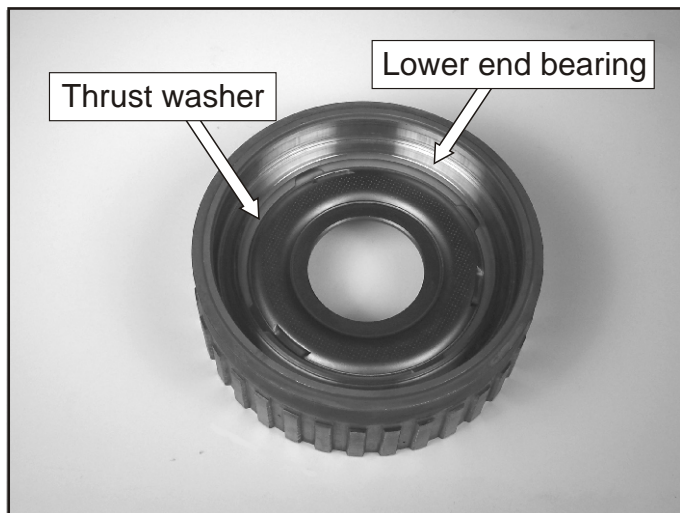

Figure 182
- 126. Assemble the thrust washer and the lower end bearing as shown in Figure 182.